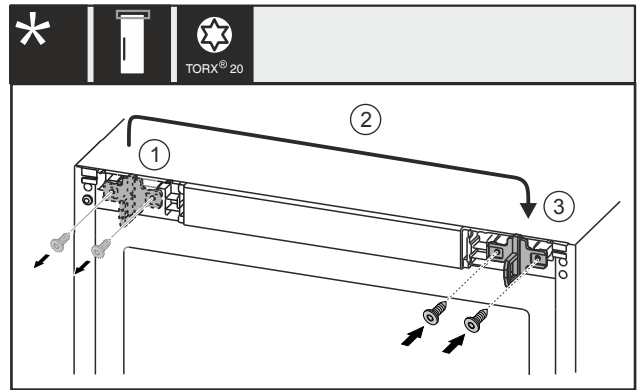

Fig. 24 With electrical lock*
- ▶ Pull out the screws Fig. 24 (1) with the screwdriver.*
- ▶ Move the closing hook Fig. 24 (2) to the opposite side.*
- ▶ Attach and tighten the screws Fig. 24 (3) with a screwdriver.*